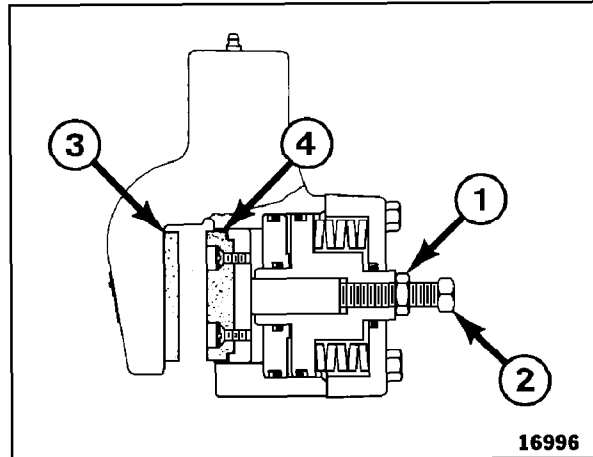

Figure 14
4. With one person in cab, have another person, loosen hex nut (1, Figure 14) and turn adjustment set screw (2) clockwise ("IN") until both brake pads (3 and 4) are in solid contact with brake disc.
5. With both brake pads (3 and 4, Figure 14) in contact with disc, turn adjustment set screw (2) "OUT" until 0.012 In. (0.305 mm) clearance is obtained. Then tighten hex nut (1) to hold it in position.